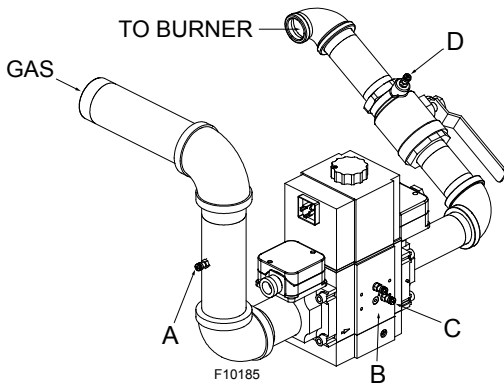

Figure 43. Gas Pressure Measurement Locations
2. Attach (1) 12" scale manometer to an upstream bleedle valve on the gas supply pipe to the heater. Measure point "A" in **Figure 43**.
Proper leak testing requires three pressure test points in the gas train. Remove the upper front panel and swing the front J-box out of the way to access the gas valve for this test. Refer to **Figure 43**.
Test point C is a bleedle valve located downstream of both automatic gas valve seats and upstream of the manual valve. Refer to **Figure 43**.